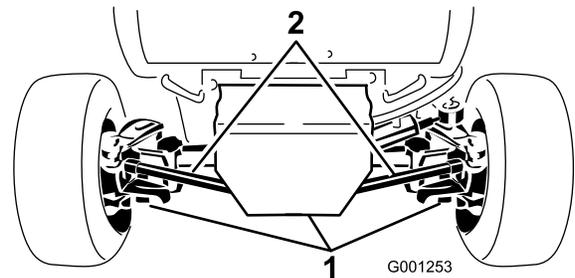

Figure 53
2. Clean the area around the 3 drain plugs, 1 on each end and 1 in the center (Figure 53).